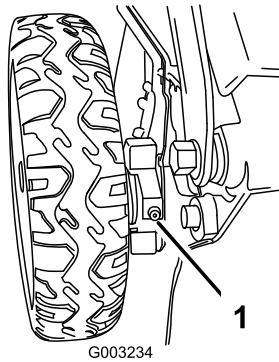

Figure 43
1. Wipe the grease fittings just inside the rear wheels with a clean rag (Figure 43).